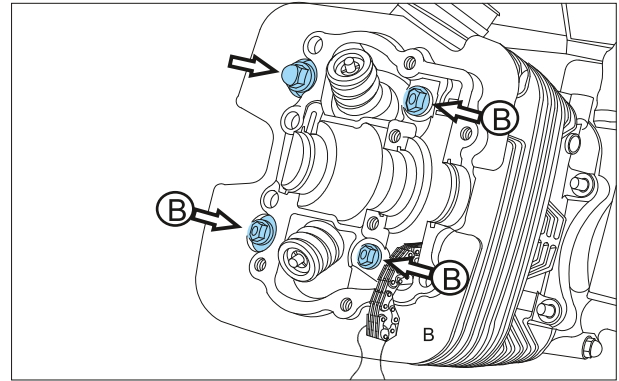

Fig. 3.59
- Loosen and remove 3 nos. hexagonal flange nut M8 (B) from cylinder head.
- Take out the 3 nos. plain washer of 8.5X18.5X2.3 (Fig. 3.59)